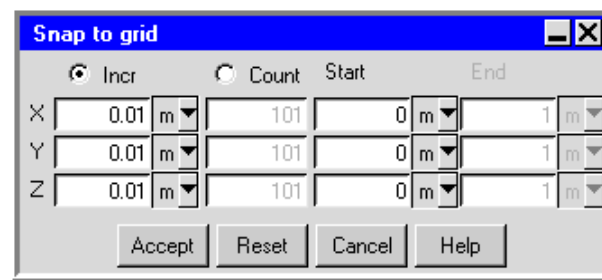

Figure 7.2.8: The Snap to grid Panel
- Snap the room (and other objects) to a grid using the **Snap to grid** panel (Figure 7.2.8). To open this panel, select the room in the graphics window and then select **Snap to grid** in the **Model** menu.